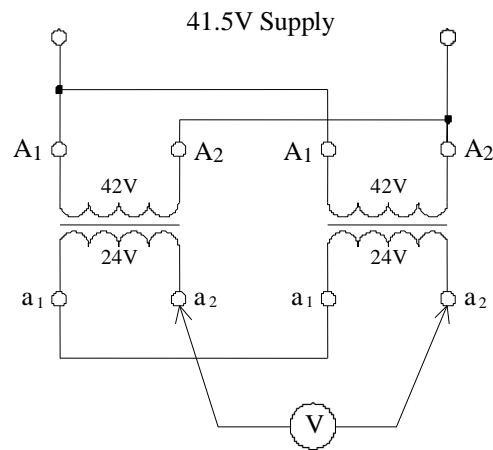

Figure 3
- Connect the two single phase transformers as shown in figure 3.